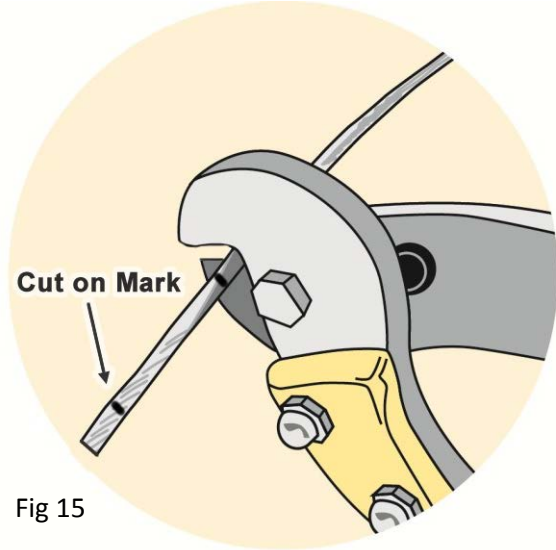

Fig 15
- Cut cable to its final length (Fig. 15).